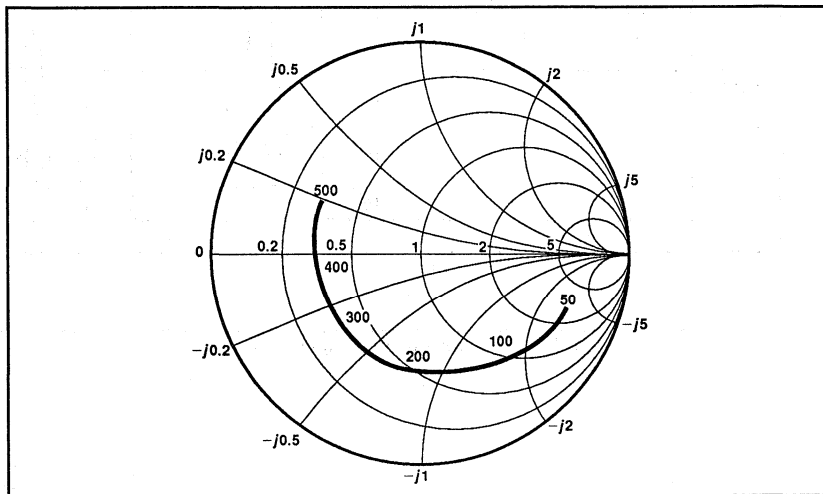

Fig. 5 Typical input impedance. Test conditions: Supply Voltage = -5.2V, Ambient Temperature = 25°C. Frequencies in MHz, impedances normalised to 50Ω.
6. Input impedance is a function of frequency, See Fig. 5.